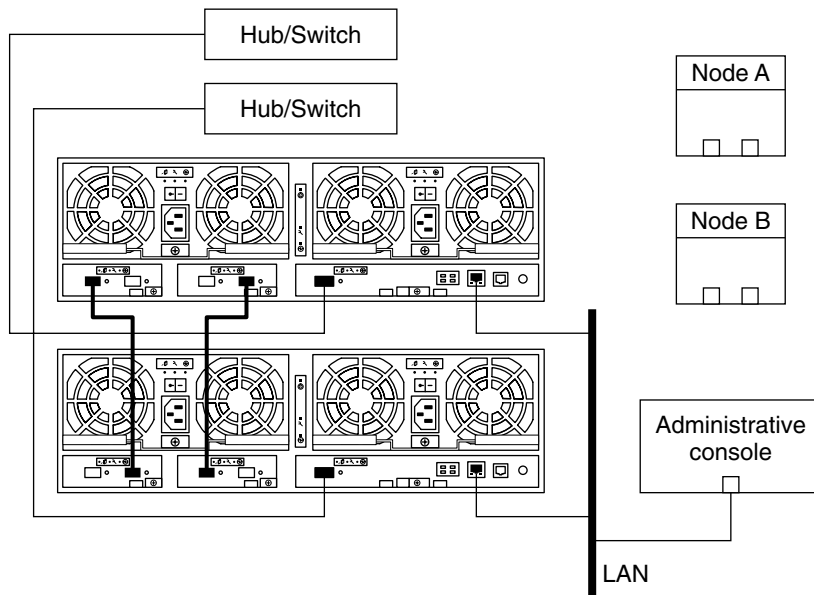

FIGURE 1-6 Adding a Partner-Group Configuration: Part I
Note – Assign an IP address to the *master* controller unit only. The master controller unit is the storage array that has the interconnect cables attached to the to the second port of each interconnect card, as shown in Figure 1-6.
2. **Install the Ethernet cable between the storage arrays and the local area network (LAN), as shown in Figure 1-6.**
3. **If not already installed, install interconnect cables between the two storage arrays of each partner group, as shown in Figure 1-6.**
- If yes, install the media interface adapter (MIA) in the Sun StorEdge T3 arrays that you are adding, as shown in Figure 1-6.
13. If necessary, install GBICs or SFPs in the FC switches, as shown in Figure 1-6.
14. Install a fiber-optic cable between each FC switch and both new storage arrays of the partner group, as shown in Figure 1-6.